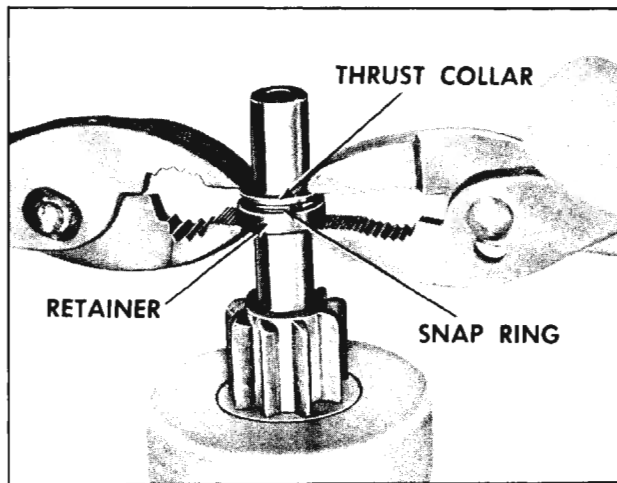

Fig. 14-36 Installing Retainer and Snap Ring
- f. Position retainer and thrust collar next to snap ring. Using two pliers, grip retainer and thrust collar and squeeze until snap ring is forced into retainer and is held securely in groove in armature shaft. (Fig. 14-36)